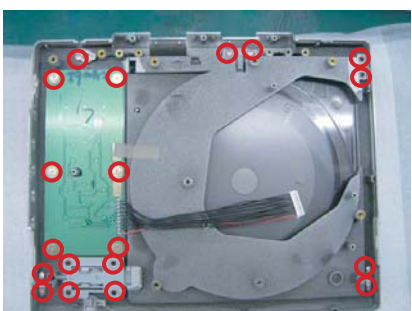

Fig.6
4. Remove key board and other parts as Fig.6